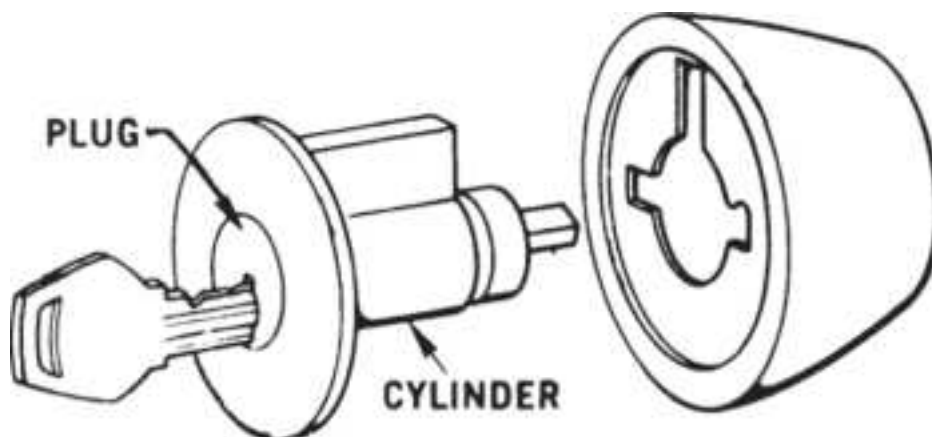

**Figure 13.20** Remove outside knob.
1. Remove the outside knob. Turn the key in either direction until it can be partially extended from the plug (Fig. 13.20 ).